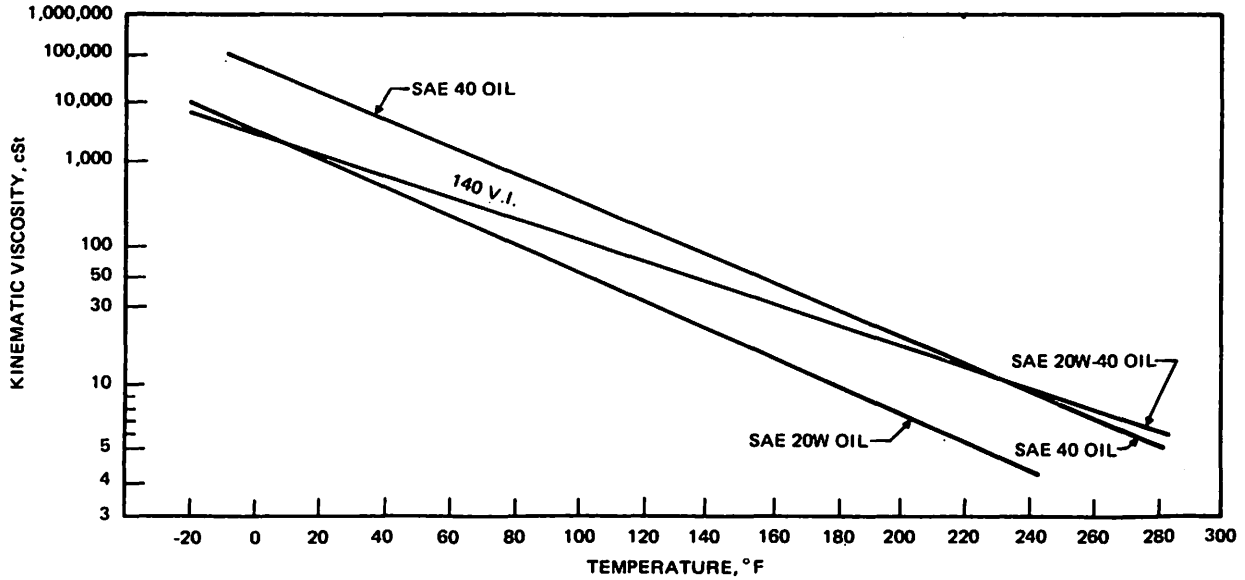

FIGURE 9
Multigrading is accomplished by providing an oil which has a high viscosity index. The viscosity index (VI) of an oil is an empirical number which indicates the degree of change in viscosity with a change in temperature. A low VI signifies a relatively high change in viscosity with temperature, whereas a high VI indicates a relatively low change in viscosity with temperature. Figure 9 gives a graphic illustration.
To provide multigrading, oils of much higher VI must be provided. This is accomplished by the use of VI Improvers which are typically high molecular weight, and high viscosity, polymers. When blended with conventional base oils, the viscosity effect is such as to markedly increase the viscosity index. As shown in Figure 9, an oil can be an SAE 20W/40, a "20-weight" at low temperature and a "40-weight" at high temperature.